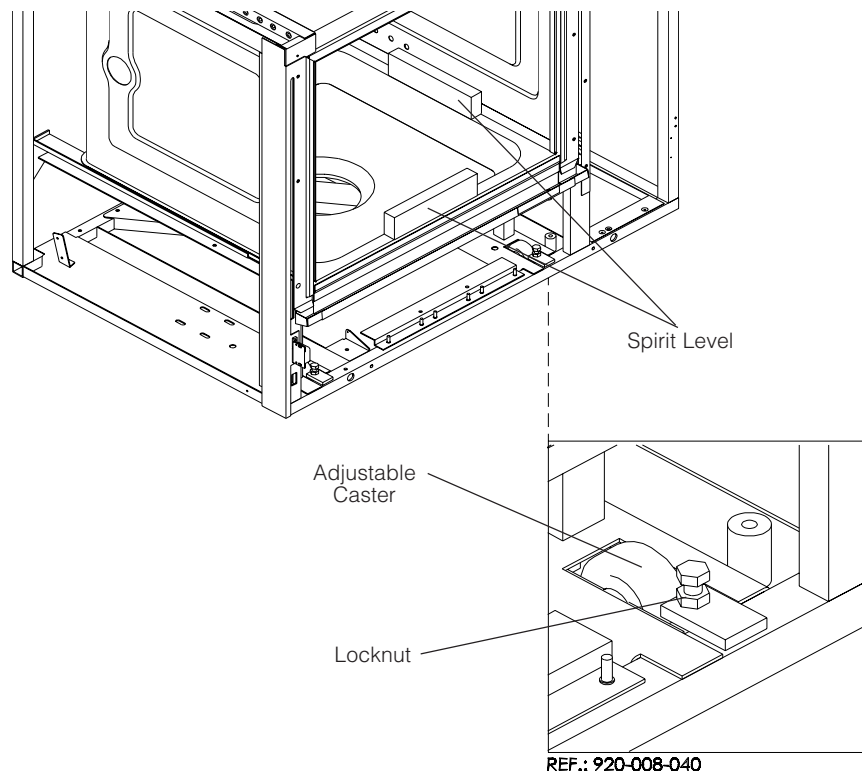

Figure 3-7. Level Unit
3. To level washer/disinfector, place a spirit level on the door sill of the wash chamber and on the side of the wash chamber (see Figure 3-7).